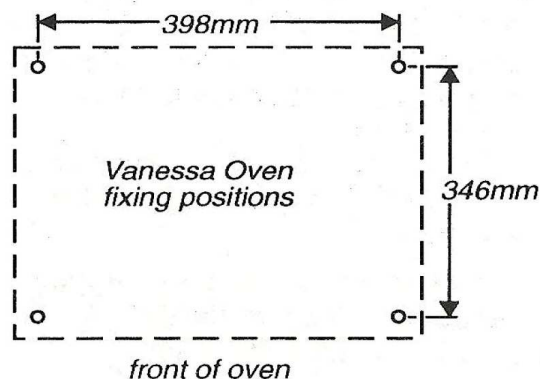

Fig. 16
1. Fix to the support beneath. Use four No. 8 woodscrews passed through the projecting lugs at each end of the front and the back. For hole spacings see Fig. 16